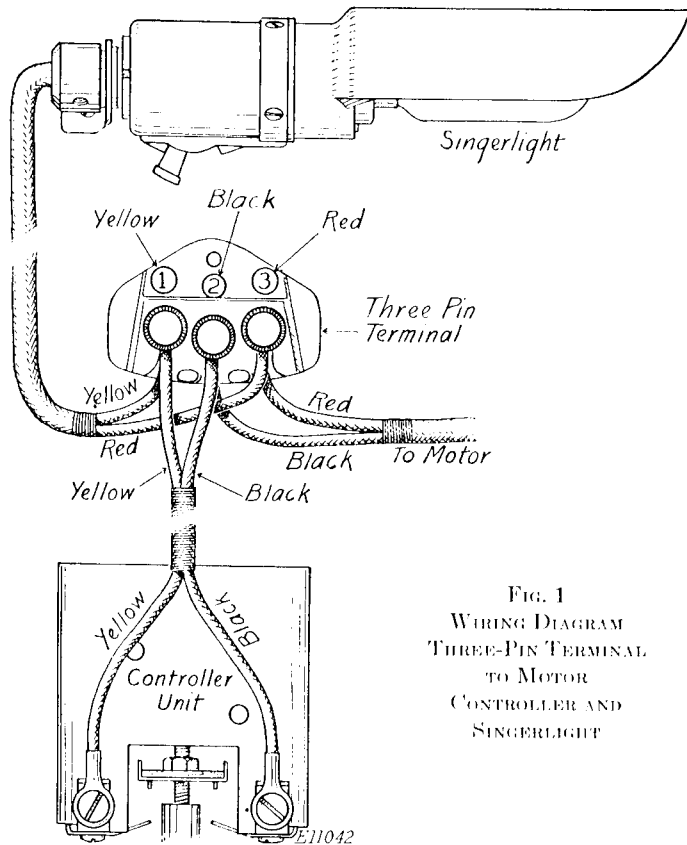
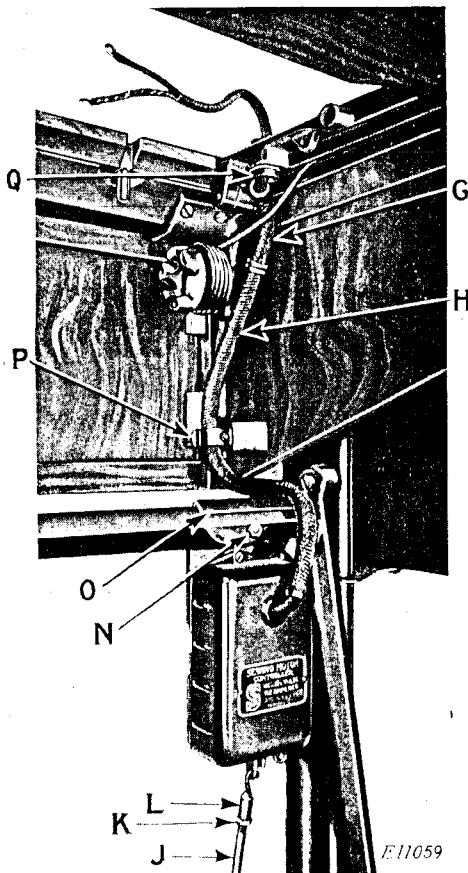

FIG. 1
FIG. 3. TREADLE CONTROLLER ON STAND 46913 AND CABINET 404
Motor Leads—Fasten the lead with the **red** tracer thread to the **red** pin No. 3, and fasten the solid **black** motor lead to the **middle** pin No. 2, as illustrated in Fig. 1.
four screws in the cabinet as shown at (D). This brings knee controller lever just below the front of the cabinet as shown by (C). Put cable housing (E), containing controller leads, in clip (F). Pass the controller leads up through bushing (A) and attach controller leads to three-pin terminal as indicated by Fig. 1, Wiring Diagram.
Disconnect the controller leads from pins Nos. 1 and 2 of three-pin terminal. Draw controller leads down through lifting plate bushing (Q, Fig. 3). Remove cable housing (H) from clip (P). Loosen nut (K) and unscrew pitman rod (J) from connection (L). Remove nut and screw (N) which fasten controller bracket (O) to treadle frame. When replacing, attach bracket (O) to treadle frame by means of screw and nut (N). Attach pitman rod (J) to connection (L) by screwing upper end of pitman rod into base of connection as shown in Fig. 3. Tighten nut (K) against base of connection (L). Put long cable housing (H) in clip (P) and place short cable housing (G) above housing (H) as shown in Fig. 3. Pass controller leads up through bushing (Q) and attach controller leads to three-pin terminal as shown by Fig. 1, Wiring Diagram.